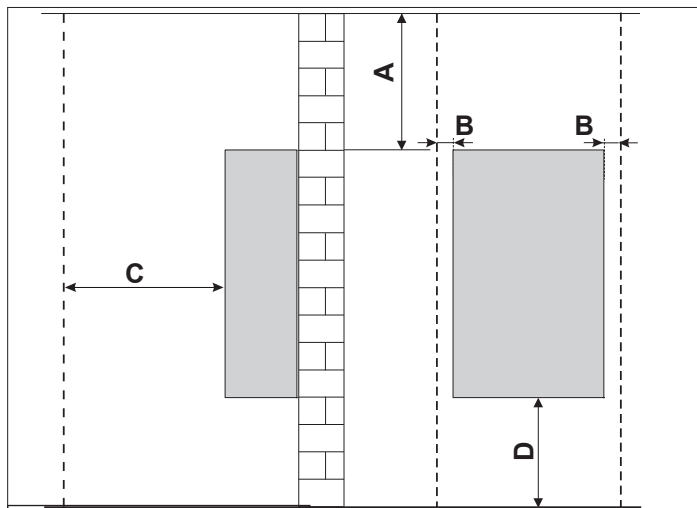

Figure 3 - Minimum Clearances
**NOTE:** If you do not provide the minimum clearances shown in Figure 3 and Table 5 it might not be possible to service the boiler without removing it from the space.